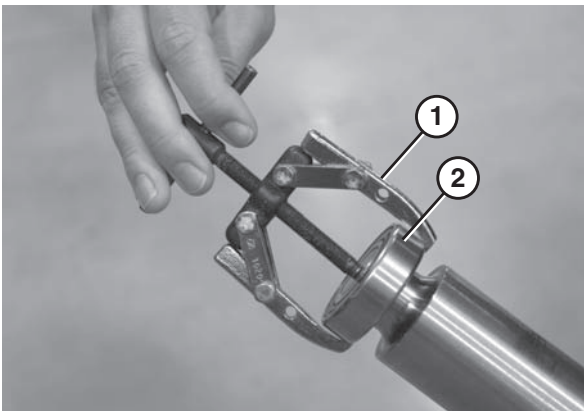

Figure 90
2. Using a bearing removal tool (Figure 90, item 1), remove the bearing (Figure 90, item 2).